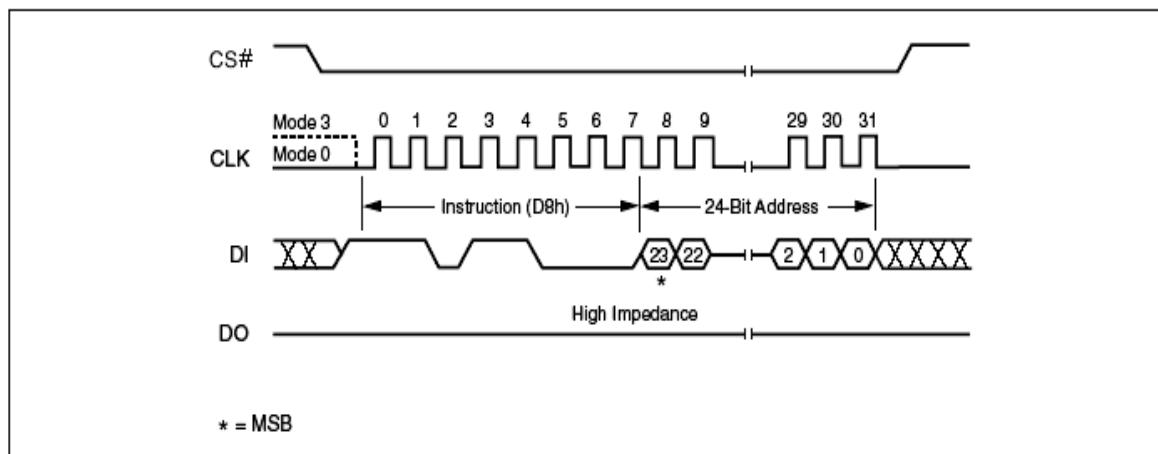

Figure 26. 64K Block Erase Instruction Sequence Diagram
The instruction sequence is shown in Figure 26. Chip Select (CS#) must be driven High after the eighth bit of the last address byte has been latched in, otherwise the Block Erase (BE) instruction is not executed. As soon as Chip Select (CS#) is driven High, the self-timed Block Erase cycle (whose duration is t_{BE}) is initiated. While the Block Erase cycle is in progress, the Status Register may be read to check the value of the Write In Progress (WIP) bit. The Write In Progress (WIP) bit is 1 during the self-timed Block Erase cycle, and is 0 when it is completed. At some unspecified time before the cycle is completed, the Write Enable Latch (WEL) bit is reset.